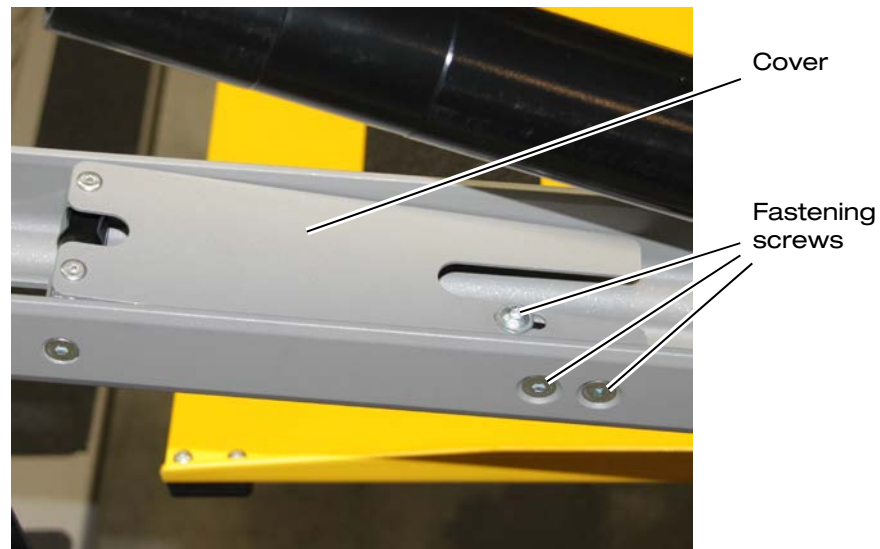

Figure 33: Fastening Screws
- ⇒ Lower the platform again by pressing the “DOWN” (2) push-button, until the abrasion protector on the elbow joint is no longer in contact with the carrier arm.
- ⇒ Loosen the three micro-switch fastening screws (see Figure 33).
- ⇒ Lower the platform by pressing the “DEPLOY” (3) and “DOWN” (2) push-buttons, until the abrasion protector on the elbow joint is no longer in contact with the carrier arm.
- ⇒ Loosen the three micro-switch fastening screws (see Figure 33, page 57).